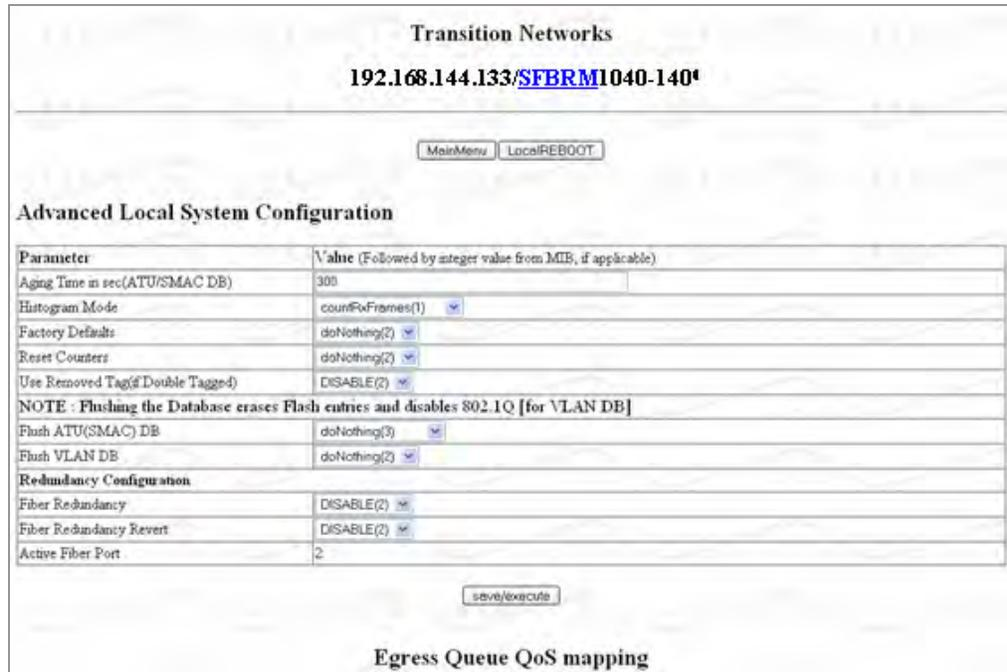

Figure 47: Redundancy Configuration Screen
6.	Click the advance system configuration VIEW button to show the redundancy configuration parameters, shown in Figure 47.